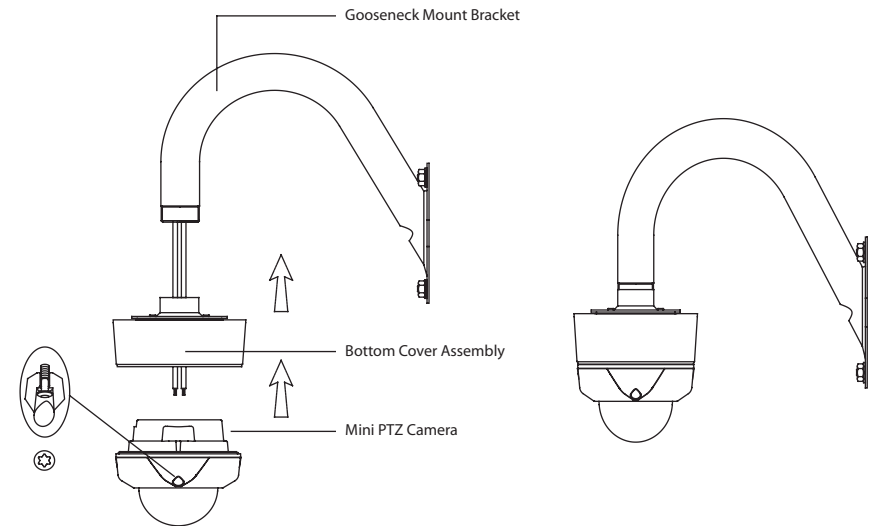

FIG. 4
5. As shown on FIG. 4, after assembling Mini PTZ and bottom cover assembly, drive the gooseneck mount bracket and fix.